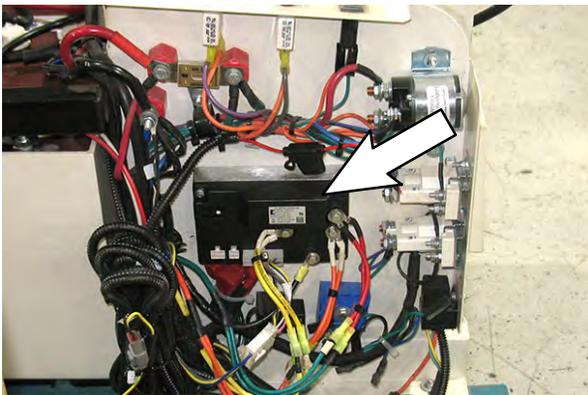

FIG. 3
- Disconnect all main wire harness cable/wire connections from the controller. (Fig. 3)
- Remove the controller from the machine. Discard the controller and all mounting hardware. (Fig. 3)